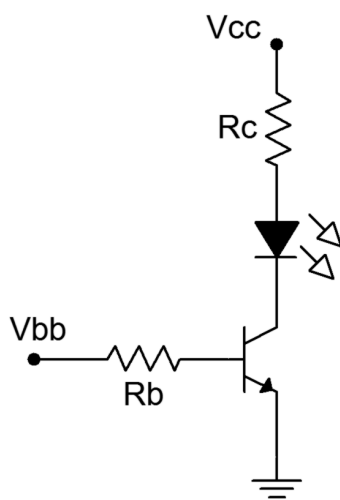

Figure 2
2. Consider the saturating switch of Figure 2 using $V_{cc} = V_{bb} = 5$ volts, $R_b = 4.7 \text{ k}\Omega$ and $R_c = 220 \text{ }\Omega$. Calculate the base and collector currents and record them in the first row of Table 2 (theory). As the circuit is in saturation, the theoretical V_{CE} is close to zero and may be found on the transistor data sheet via the V_{CE}/I_C saturation graph. Record this value in the first row of Table 2 as well.
3. Build the saturating switch of Figure 2 using $V_{cc} = V_{bb} = 5$ volts, $R_b = 4.7 \text{ k}\Omega$ and $R_c = 220 \text{ }\Omega$. Measure and record the base and collector currents, and record the collector-emitter voltage in the first row of Table 2 (experimental). Also compute and record the deviations between theory and experimental results.
13. Simulate the circuit of Figure 2 and record the currents and voltage in Table 5.